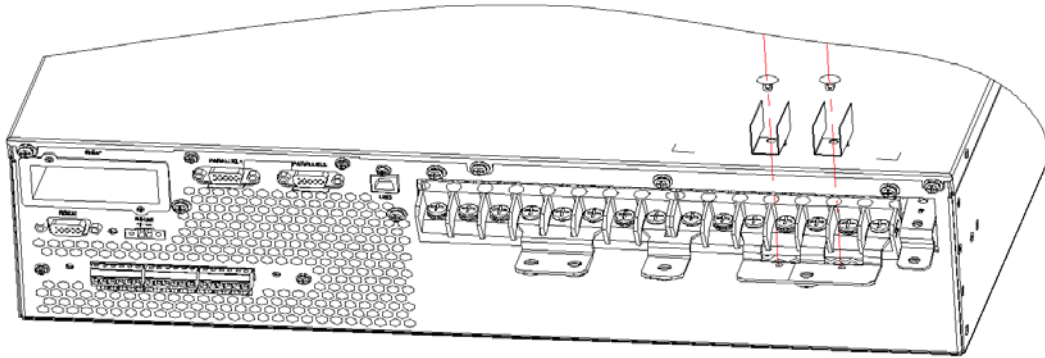
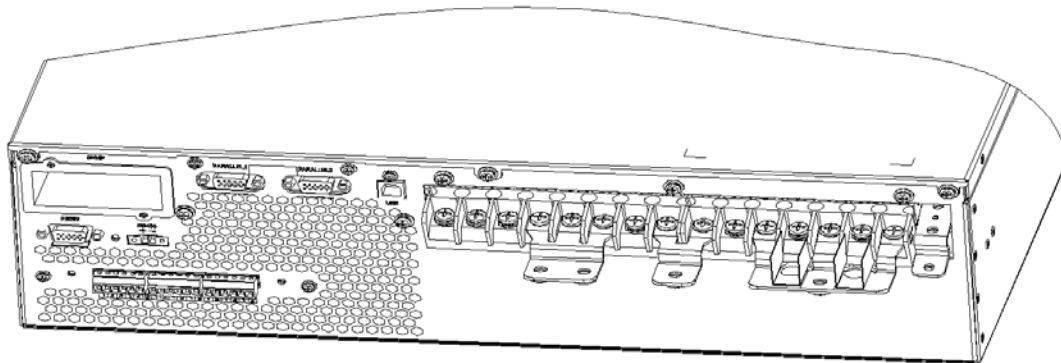

Fig. 3-19 Fix insulation film
Fig. 3-20 Graphic of insulation film fixed
- 3、 In Figure 3-19, monte the insulating film (accessory) to the No.5 copper bar, and fixed in the corresponding position with the plastic rivet, as shown in figure 3-20.